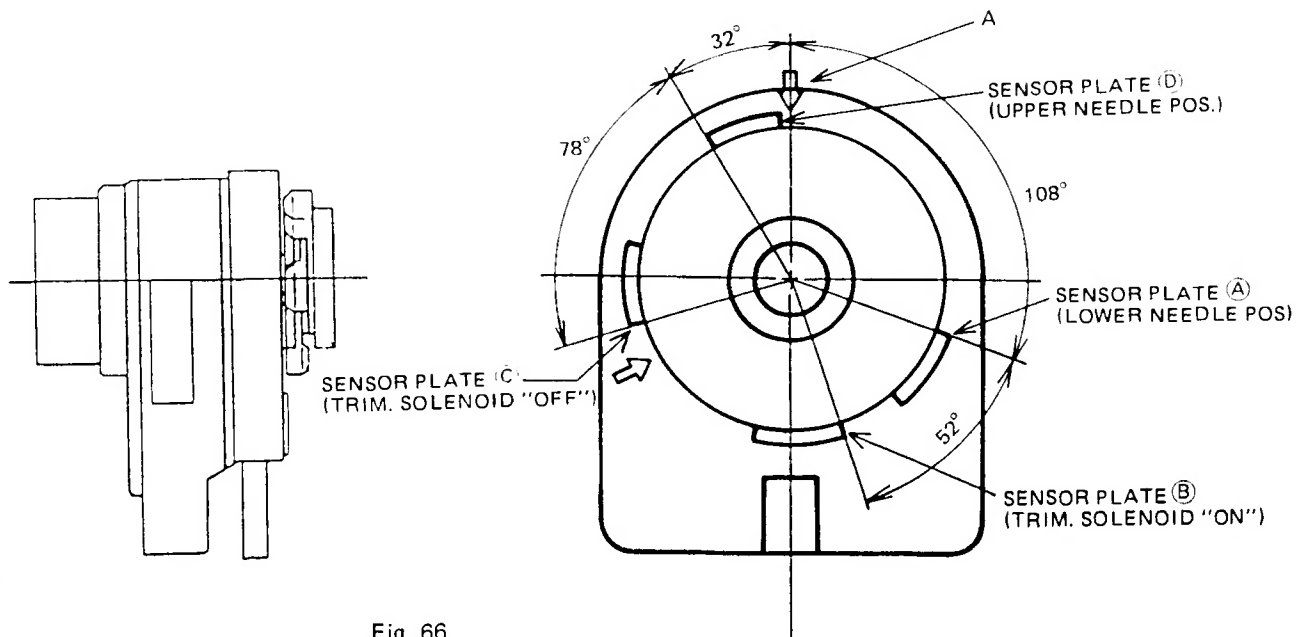

Fig. 66
1. The positions of the sensor plates (for upper and lower needle positions and for controlling the trimmer solenoid) in relation to the sensor set screw A should be as shown in Fig. 66. To adjust the position of a sensor plate, loosen screw on right end of the sensor and turn sensor plate as required, then tighten the screw.